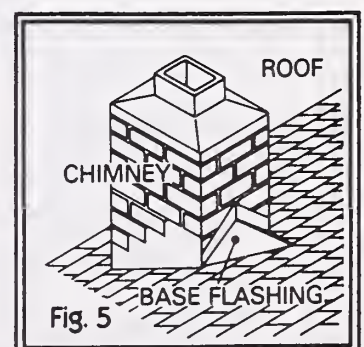

Fig. 5
5. If shingles are damaged beyond repair, replace them. This can be more tricky than repairing a cracked shingle (fig. 5).